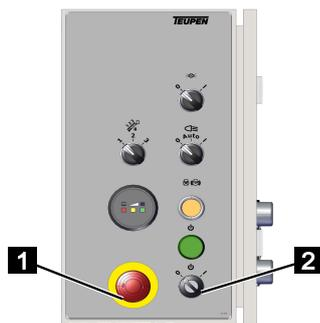

Fig. 69
1. Make sure that the emergency stop button (Fig.69/1) on the control box has not been actuated.
2. Turn the ignition key (Fig.69/2) clockwise to position [ 1 ].